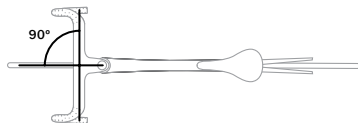

Figure 1.6: Proper alignment of handlebar and saddle.
- Make sure the bar is at 90 degrees to the wheel (Figure 1.6).
- Make sure the saddle is in line with the centre of the bike (Figure 1.6).